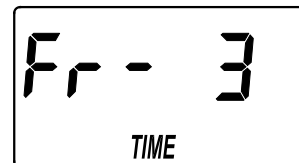

FIG. 27
2. Press the SELECT/MENU button three times, so that "Fr TIME" appears in the display (See Figure 27).